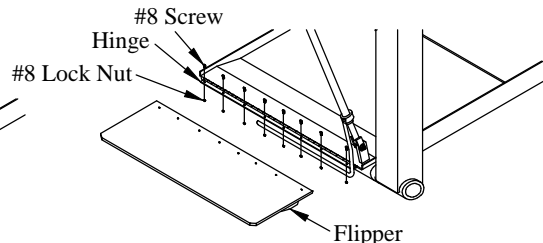

Figure 24: Flipper hinge hardware.
12. **Attach** the flipper to the hinge on the platform using eight (8) 8-32x1/2" screws and 8-32 nylon lock nuts (Figure 24).